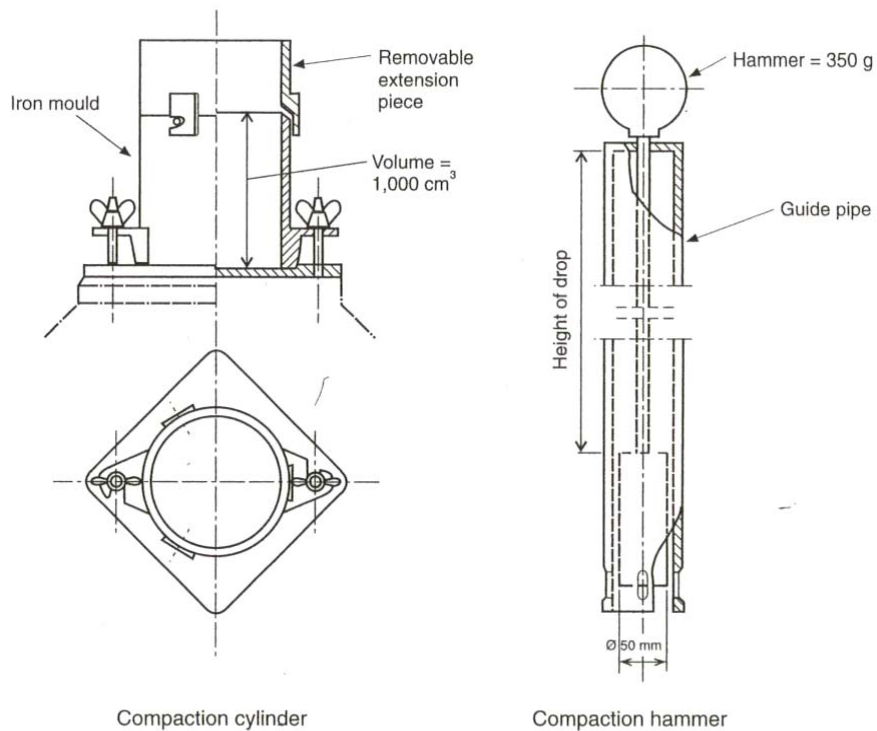

Figure 1.3.2 – Proctor apparatus
- .1 The Proctor apparatus (see figure 1.3.2) consists of a cylindrical iron mould with a removable extension piece (the compaction cylinder) and a compaction tool guided by a pipe open at its lower end (the compaction hammer).